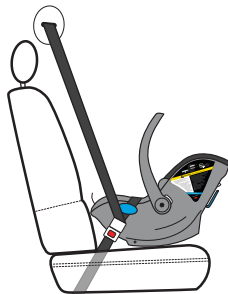

Figure 69
If you are still unable to shift Carrier so that blue Reference Line is parallel to the ground, remove the vehicle shoulder belt from around the back of the Carrier and let it retract into a position against the front of the vehicle seat back as shown in **Figure 69** and shift the Carrier so that the blue Reference Line is parallel to the ground, or move to another seating position.
- DO NOT wrap shoulder belt around back of Carrier. Let the shoulder belt retract into a position against the front of the vehicle seat back as shown in **Figure 69**.